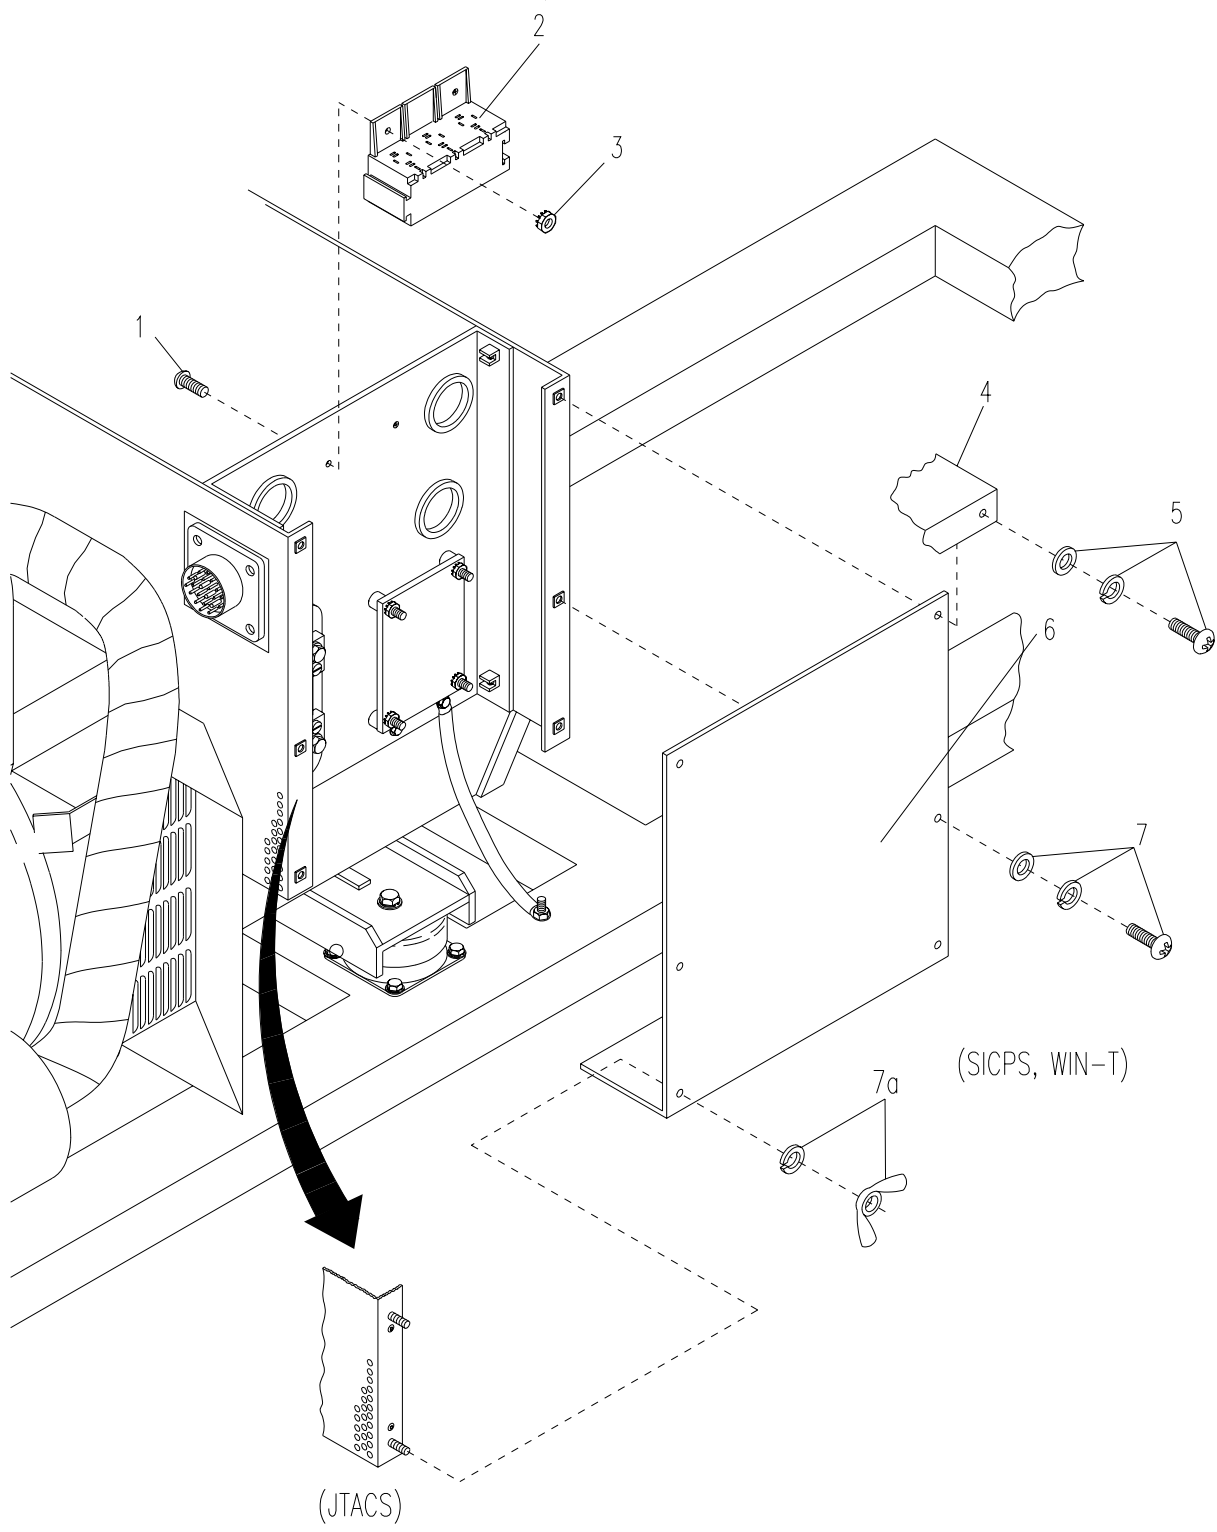

Figure 5-15. Relay Sockets
- a. Remove four screws (JTACS), or slotted hex-head bolts (SICPS and WIN-T), flat and lock washers (5, Figure 5-15), and remove generator housing top cover (4).
- b. Remove two screws, wing nuts and lock washers (7a) (JTACS), or four slotted hex-head bolts (SICPS and WIN-T), flat and lock washers (7), and generator housing side cover (6) (muffler side).
- c. Tag and remove electrical leads from relay sockets (2).
- d. Remove two screws (1), two nuts with captive washers (3), and remove relay sockets (2).
- e. Install relay sockets (2) and secure with two screws (1) and nuts with captive washers (3).
- f. Install electrical leads in relay sockets (2) and remove tags.
- g. Install generator housing side cover (6) and secure with two screws, wing nuts and lock washers (7a) (JTACS), or four slotted hex-head bolts (SICPS and WIN-T), flat and lock washers (7).
- h. Install generator housing top cover (4) and secure with four screws (JTACS), or slotted hex-head bolts (SICPS and WIN-T), flat and lock washers (5)